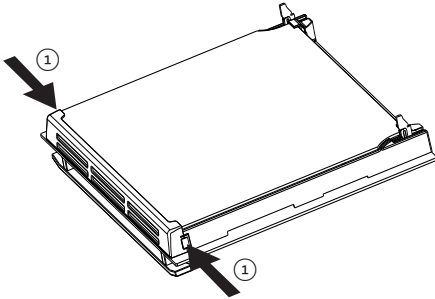

Fig. 8.11
- Touch the glass retainer tabs in on both sides of the door and remove the glass retainer (figs. 8.11, 8.12).